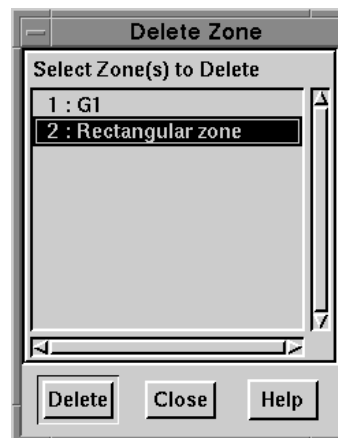

Figure 25-18. The Delete Zone dialog.
1. From the Data menu, choose Delete Zone. The Delete Zone dialog appears as shown in Figure 25-18.